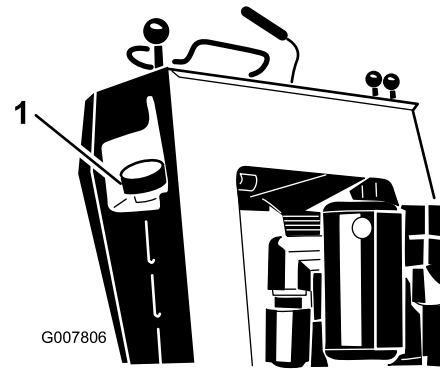

Figure 15
3. Clean around the fuel tank cap and remove it (Figure 15).